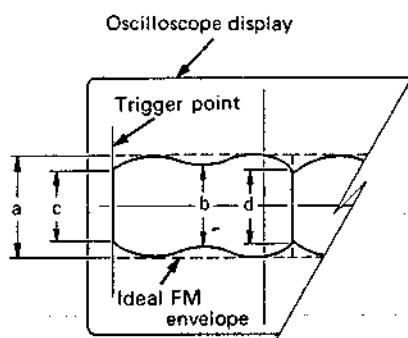

Fig. 1-6-1 FM envelope
1. Turn the TRACKING knob to obtain the maximum FM envelope output corresponding to (a) level in Fig. 1-6-1. Observe the FM envelope, read the maximum level (a) and the minimum levels (b), (c) and (d).